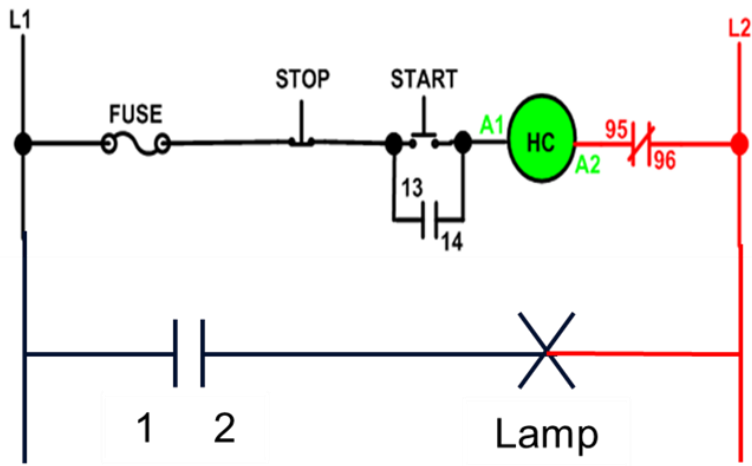

Figure 1
3. Connects the components as shown on figure 1 below.